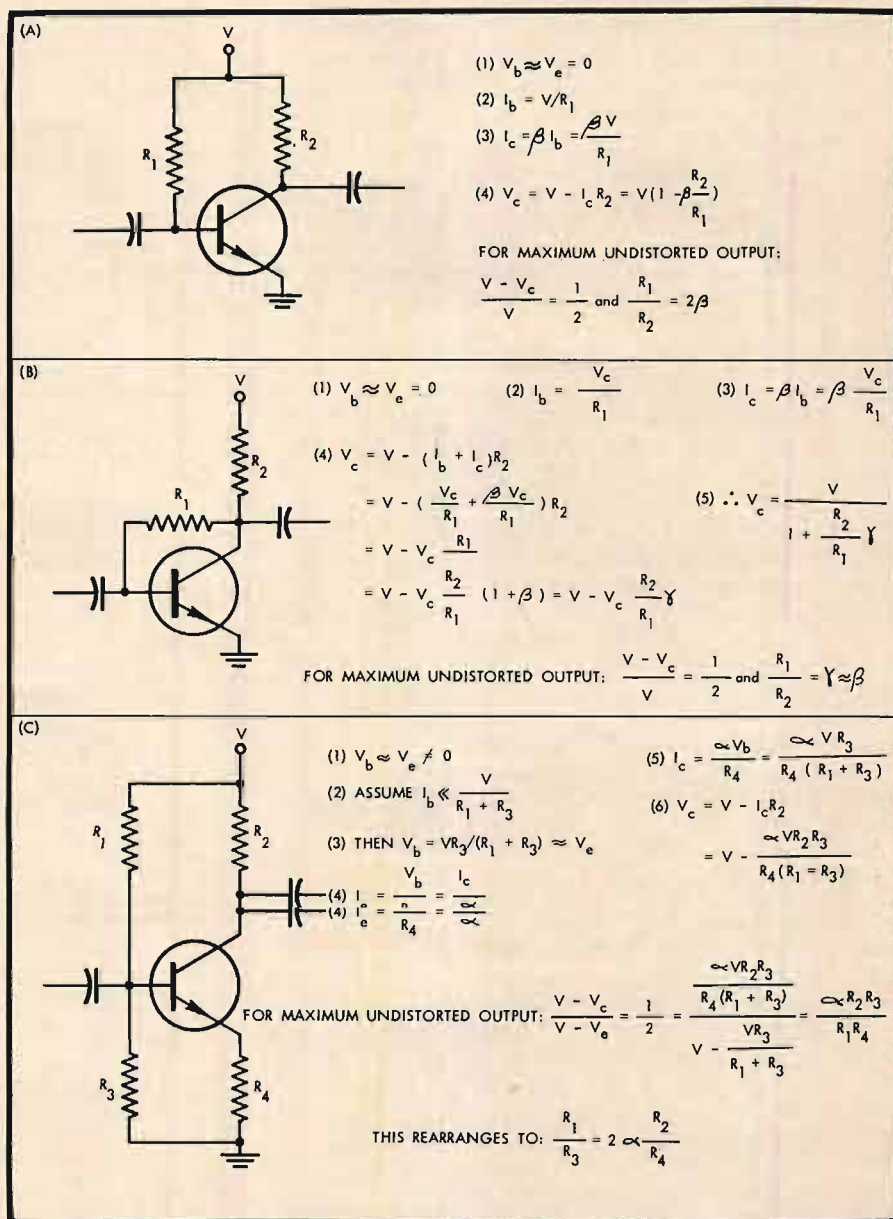

Fig. 2. Bias circuits: (A) simple, (B) better, (C) much better.
grasp of Ohm's Law, a surprisingly complete knowledge of transistor audio amplifiers can be deduced. As an example, consider the typical bias circuit shown in (A) of Fig. 2. If the voltage at the base is equal to the voltage at the emitter, and the emitter is grounded, it follows that the current in R_1 is obtained by dividing R_1 into V . The collector cur-
peak-to-peak swing of nearly 5.7 volts. If the supply voltage happened to be 6 volts, a popular value in transistor work, nonlinear operation could be avoided only if the collector d.c. voltage in the absence of signal were adjusted to one half the supply voltage in the circuit shown in (A) of Fig. 2. Then the positive and negative swings would both remain just short of trouble. The general conclusion we can draw is this: the collector should be biased to a value halfway between the emitter and supply voltages in resistance-coupled amplifiers.
It should now be a simple matter to follow a similar analysis through for (B) of Fig. 2. This circuit is interesting because, if we adjust R_1 and R_2 for the maximum undistorted output as discussed above, the collector voltage will be only half as sensitive to variations in β as the circuit of (A). Proof of this is left as an exercise for mathematics professors.